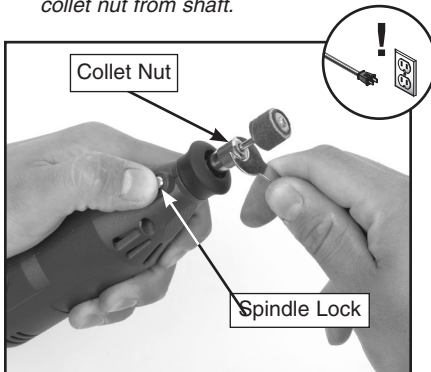

Figure 5. Loosening collet nut by pressing spindle lock and turning Counterclockwise w/wrench.
2. Press spindle lock and rotate collet nut until spindle locks (see **Figure 5**).